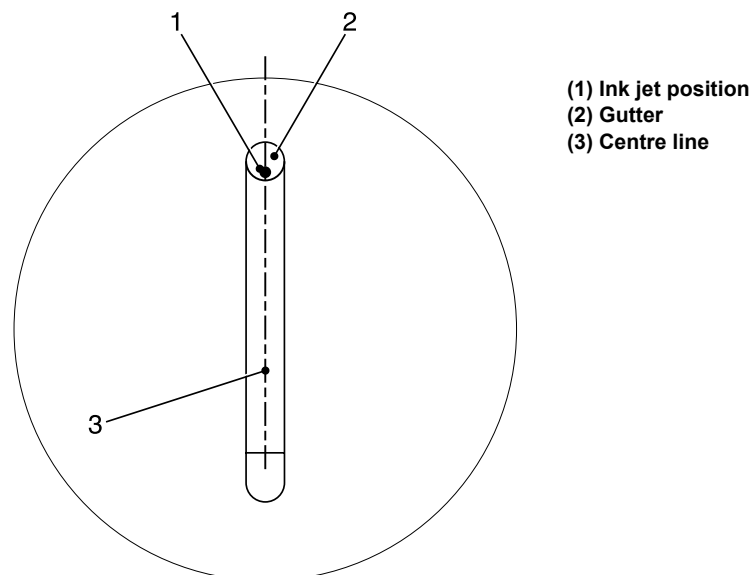

Figure 11-6. Ink Jet to Gutter Position
- 4 Perform a quick start from the system menu. When the ink jet has started, check that the ink jet is in the correct position in the gutter (Figure 11-6).